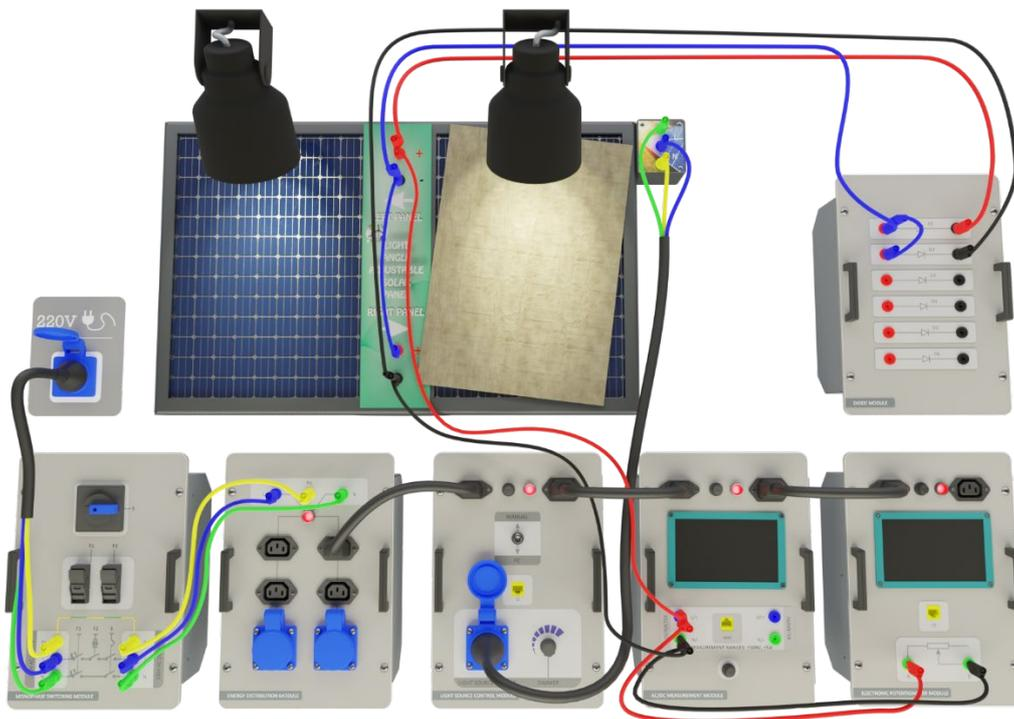

Figure-47. Installation Image of Examination of Effect of Bypass Diode in Photovoltaic Panels (with Shadow Effect)
5. To conduct the experiment, cover one panel with paper or a non-transparent material, as demonstrated in Figure-47. Then, reduce the load by 100Ω and record the voltage and current measurements from the MM Module in Table-41.